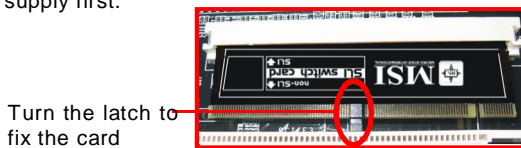

Fig.4
3. Press down the SLI switch card and secure it with the latch (fig.4). Before installing or removing an NV SLI module, make sure that you unplug the power supply first.